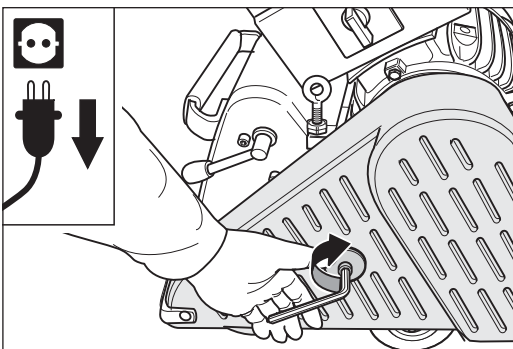

Fig. 102 **Close the belt guard.**
- 9 Close the belt guard (fig. 102).